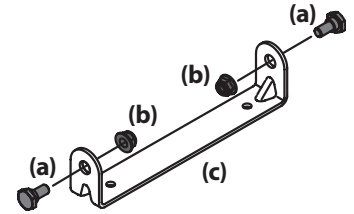

Figure 4
1. Remove the shoulder bolts (a) and lock nuts (b) from the seat mounting bracket (c) included in your hardware pack. See Figure 4.